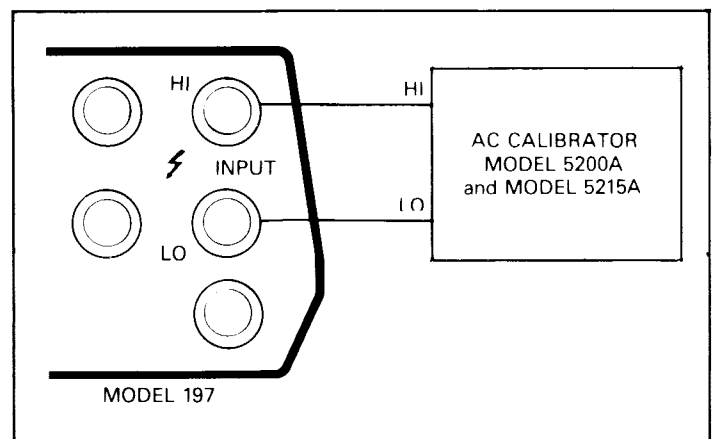

Figure 3-2. Connections for ACV Verification
2. Connect the AC calibrator to the HI and LO INPUT terminals of the Model 197 as shown in Figure 3-2.